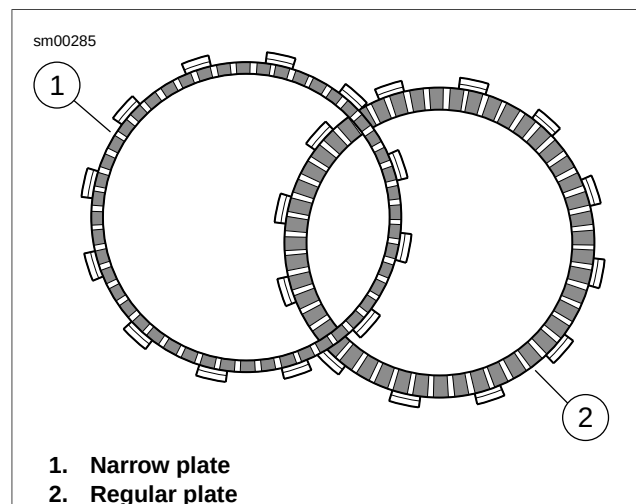

Figure 6-19. Friction Plates
2. See Figure 6-19. Install narrow friction plate on the clutch hub engaging tabs on plate with slots in clutch shell.